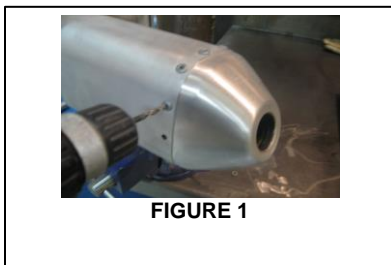

FIGURE 1
2. Use a 3/16" drill bit to drill out the rivets that hold the stock end cap in place; make sure to remove the head of the rivet. **FIGURE 1**